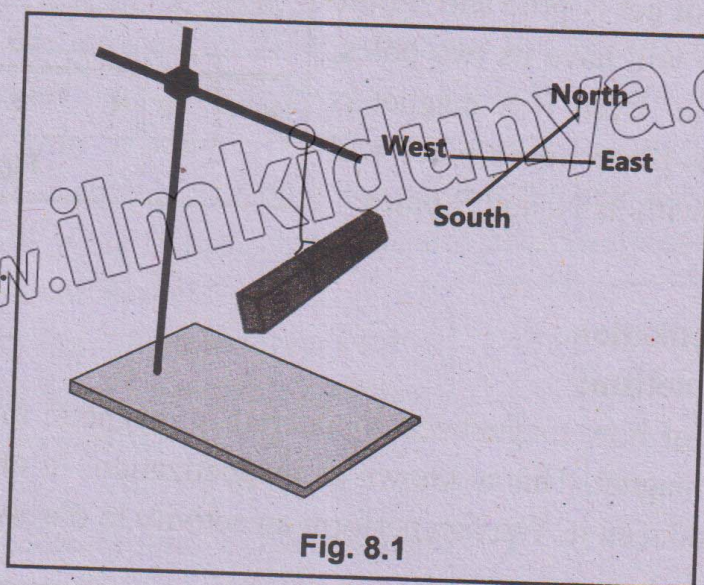

Fig. 8.1
If a bar magnet is suspended horizontally through a string and allowed to come to rest, it will point in north-south direction. The end of the magnet that points north is called the **north magnetic pole (N)**. The end that points south is the **south magnetic pole (S)** as shown in (Fig. 8.1). Magnetic poles are regions at ends of magnet where magnetic field is strongest.